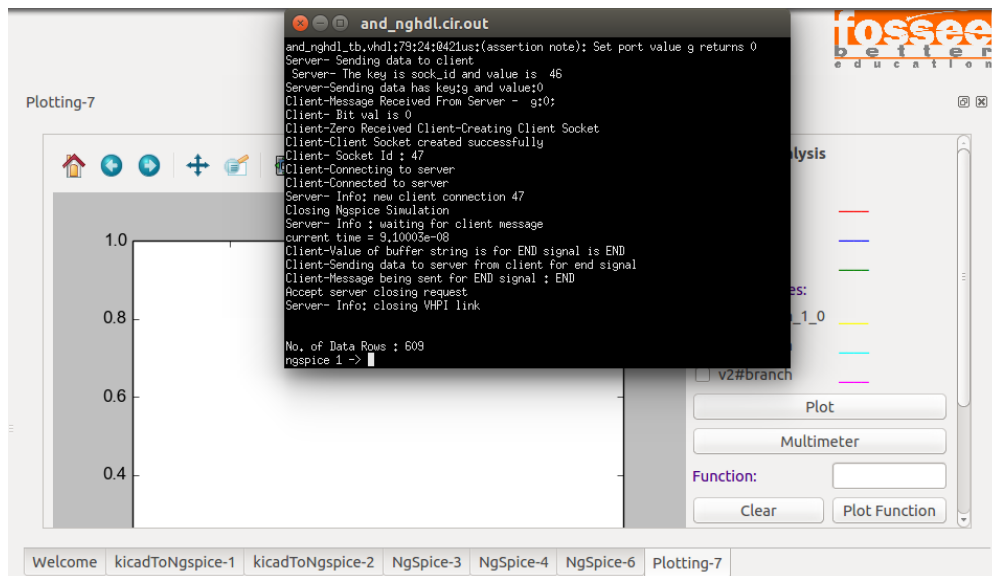

Figure 9.16: Simulation window
8. Now click on **Simulation** button, it will display the following windows as shown in Fig. 9.16. This is the Ngspice terminal and Python plot window.